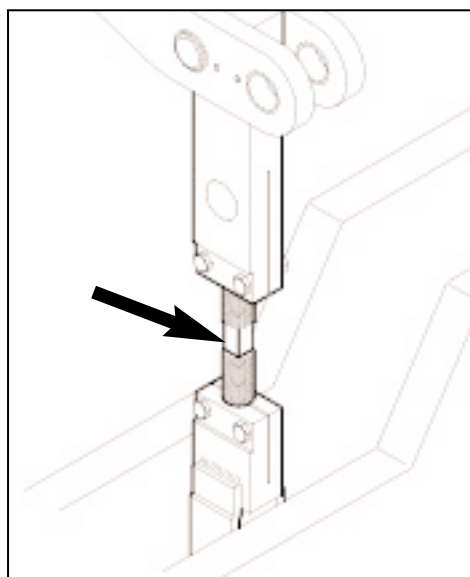

Figure 5.37 STRIPPER HEAD LINK (RIGHT SHOWN).
5.10.4 If adjustment is needed, adjust the right hand stripper head adjusting link (clockwise for more, counterclockwise for less); keep an accurate count of how many flats you turn the right hand link (see figure 5.37).